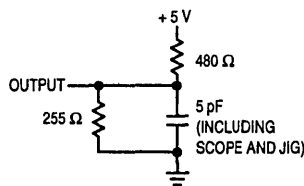

Figure 1B
5. Transition is measured $\pm 500 \text{ mV}$ from steady-state voltage with load of Figure 1B. This parameter is sampled and not 100% tested. At any given voltage and temperature, t_{E1HQZ} max is less than t_{E1LQX} min, t_{E2LQZ} max is less than t_{E2HQX} min, and t_{GHQZ} max is less than t_{GLQX} min for a given device and from device to device.
6. Transition is measured ± 500 mV from steady-state voltage with load of Figure 1B. This parameter is sampled and not 100% tested. At any given voltage and temperature, t_{E1HQZ} max is less than t_{E1LQX} min, t_{E2LQZ} max is less than t_{E2HQX} min, and t_{GHQZ} max is less than t_{GLQX} min for a given device and from device to device.